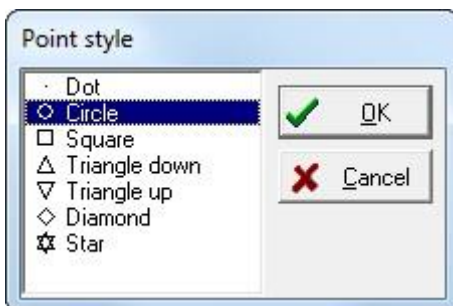

Fig. 28 Point style.
- **Mark** is used to change the look of the data marker style of the DataSet in graph (Fig. 28).